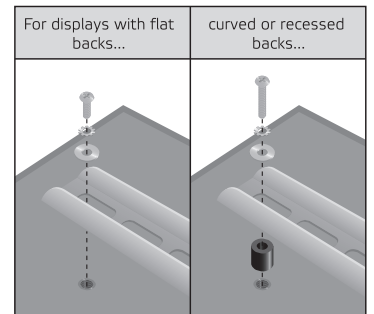

Figure 4 – Attach Arms to Rear of TV.
1. Use correct bolt size (A, D, G or J) with corresponding lock washers (C, F, I or L) through round washers (O) to attach arms to rear of TV. Use longer bolts (B, E, H, or K) and plastic spacers (M or N), if rear of TV is curved or recessed. Note that M8 bolts do not require a round washer. To avoid damaging TV, do not over tighten bolts. See Figure 4.